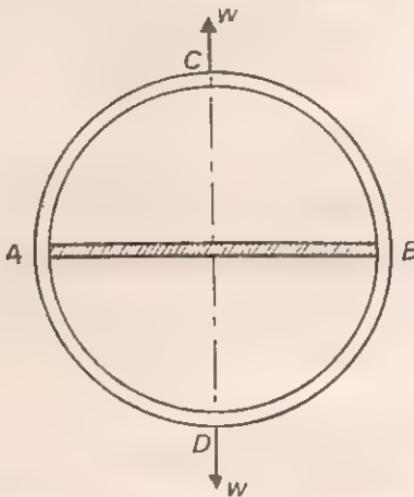

Fig. 36
14. Fig. 36 shows a circular ring of mean radius R , made of material having a uniform section. The ring is fitted with a rigid bar across the diameter AB and transmits a pull W along the diameter CD which is at right angles to AB . Obtain the force in the bar in terms of W , and the change in the diameter CD in terms of W and the flexural rigidity EI of the ring. (Lond. Univ.)